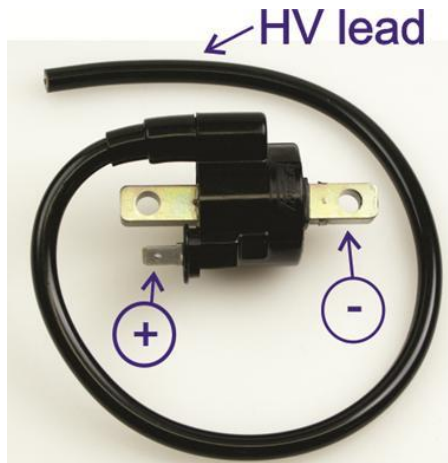

Figure 2-4 -- Ignition coil
The transformer T1 is a high voltage autotransformer. The T1 ignition coil transformer is a three terminal device. Figure 2-4 shows where we connect power from our circuit to the coil. The coil has a plastic protuberance that is the high voltage output of the transformer. A well-insulated (HV) wire is molded to this protuberance. The leads on the PC board labeled HV coil+ and – are used to connect T1 to pcb.